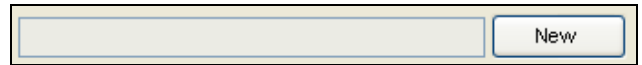

Figure 12.1.3
2. Click on the **New** button to add a new task. Type in a name for the task that will distinguish it from other tasks that you have or will put in (Figure 12.1.3).